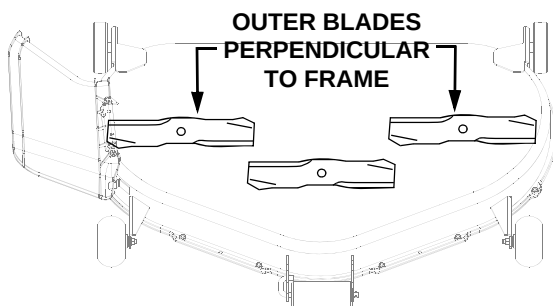

Figure 5-5
3. Raise the tractor implement lift handle to its highest setting. Carefully rotate the cutting blades so that they are positioned perpendicular to the tractor frame (See Figure 5-5). Then lower the deck to a mid-height setting using the tractor implement lift handle.